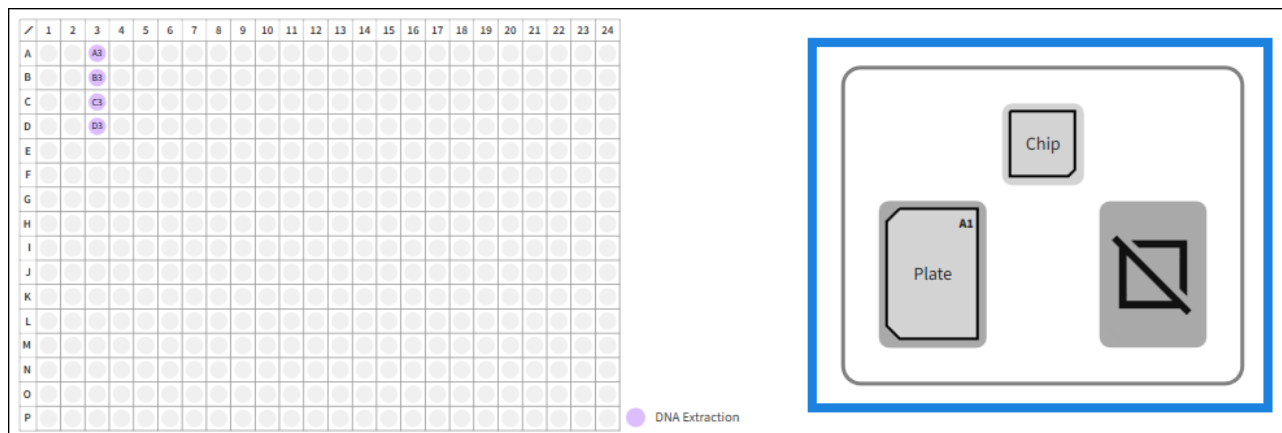

Figure 48. Mini-map of the Shasta dispensing platform displayed in CELLSTUDIO software. The mini-map is highlighted by the blue box (not present in the UI).
3. In the CELLSTUDIO interface, the area of the experiment step view displaying the active step will change to something similar to Figure 48 with a 384-well plate map on the left and a mini-map of the Shasta dispensing platform on the right.